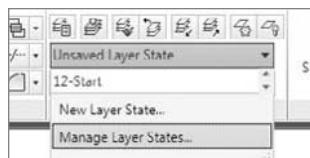

FIGURE 13.16 Accessing the Layer States Manager from the Ribbon
1. Expand the Layer State drop-down list from the Layers panel on the Home tab, and select Manage Layer States (see Figure 13.16).